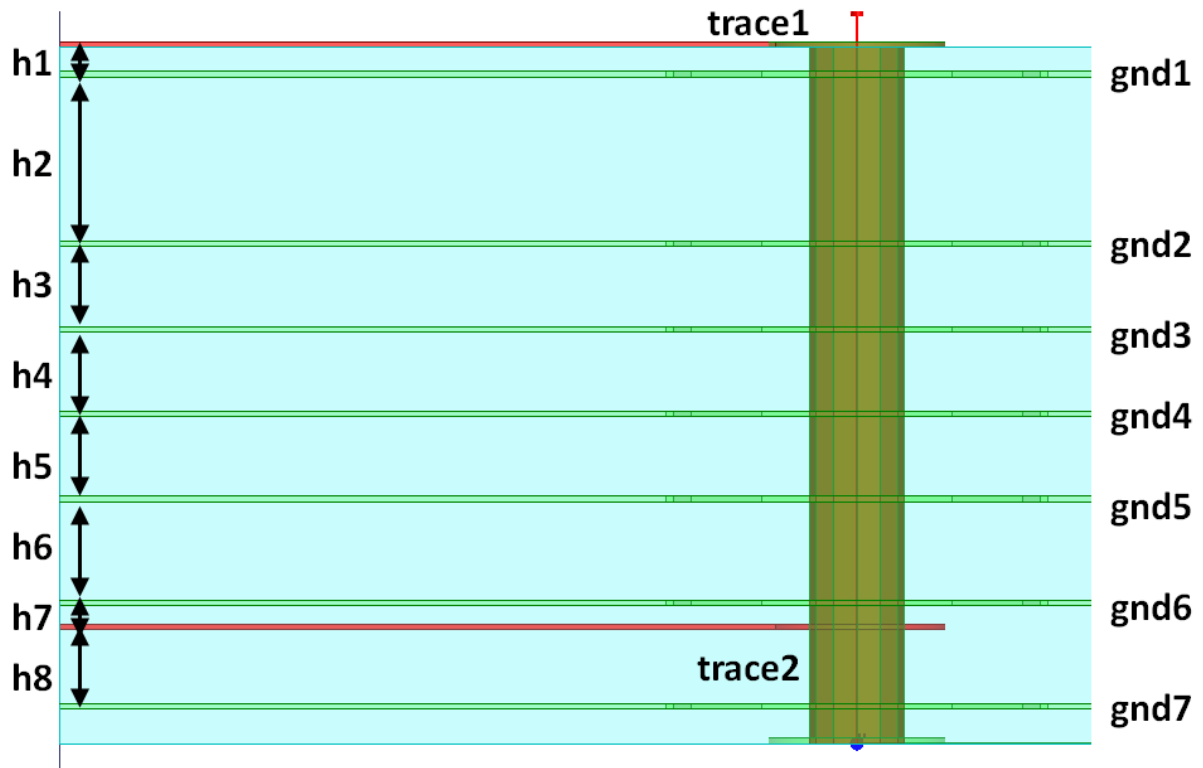

Figure 5. Locations of ground planes
2. The locations of the ground planes are illustrated in Figure 5. We use h_x to denote the separation of two planes/traces and **h_x is measured from the lower surface of one plane/trace to the upper surface of another plane/trace, e.g. h_1 is measured from the lower surface of trace1 to the upper surface of gnd1**